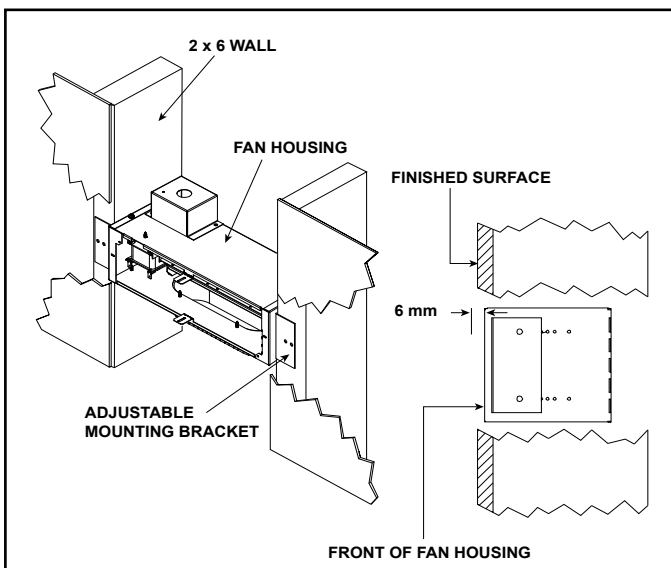

Figure 5.7 Fan Housing Mounting 2 x 6 Wall
- Mount and secure the fan housing assembly to framing members so the front surface is 6 mm below the finished wall or floor surface. Use the adjustable mounting brackets and screws provided in the kit. See Figure 5.7. **NOTE:** The brackets can be rotated 180° and mounted to the back side of the framing member if necessary.